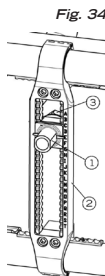

Fig. 34
- Loosen the nut holding the axle bushing. (3) (Fig. 34 - Fig. 35)
- Move axle bushing (1) along mounting plate (2).
- Reinstall the bushing in the desired mounting hole and tighten nut (3).